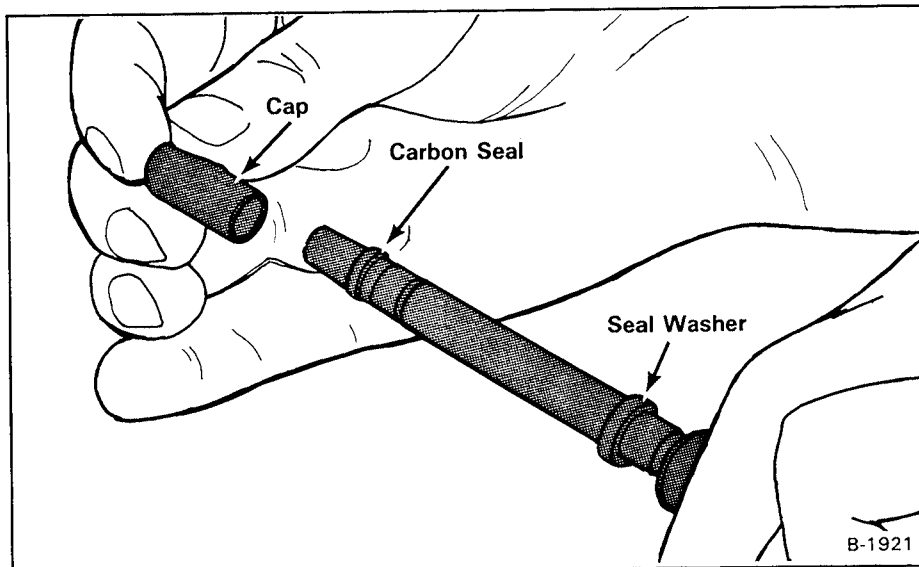

Fig. 8-57 Injector Seals
- (1) Remove carbon seal and seal washer (Fig. 8-57) from nozzle.